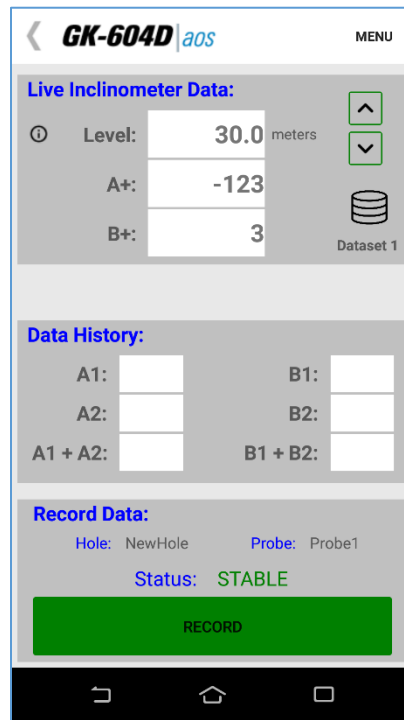

Figure 37 - Live Readings Screen
- 1) The “Live Readings” screen is displayed (Figure 37).